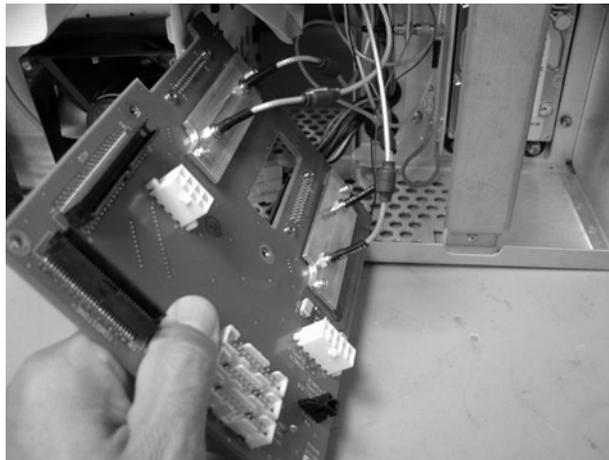

Figure 7-58. Pulling Out the A6 Distribution Assembly Board
- 5 Pull the A6 Distribution assembly away from the mainframe, as shown in Figure 7-58.